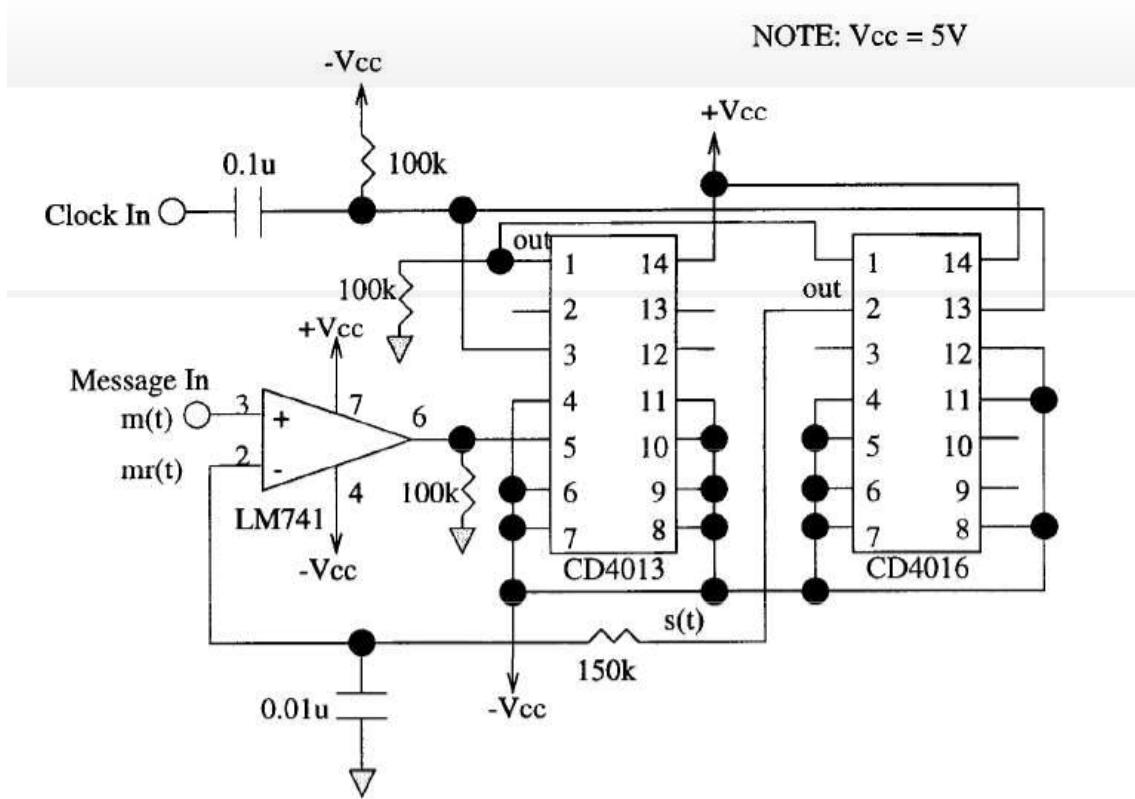

Figure 3.3: Delta Modulation circuit.
The circuit for DM modulation is given in Figure 3.3. Which consists of an LM741 operate amplifier, CD4013 dual ‘D’ flip flop and CD4016 bilateral switch. The LM 741 is operated open loop as a comparator between the input signal  $m(t)$  and the feedback signal  $mr(t)$ . The function of the CD4013 is to hold the value of the quantized error signal constant (+ or – Vcc) during the sampling period. Both the flip-flop and the bilateral switch are enabled by same clock pulse. Propagation delay in the flip-flop may be considered negligible in comparison with the pulse width. A dc integrator is used in the feedback loop.
1. Assemble the DM circuit as given in Figure 3.3.